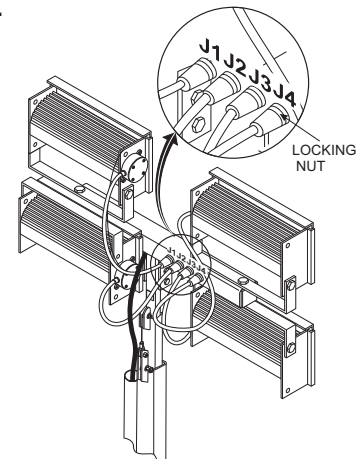

Figure 13. Cable Connectors
- Align the key tab (B) on the male connector with the slot or key (A) on the female connector and press together until seated.
- Secure the connector by screwing the knurled locking nut of the male connector to the threaded portion of the female connector to ensure good contact between the two connectors. See Figure 13.